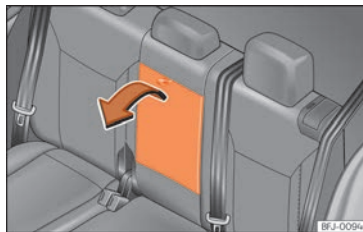

Fig. 100 Folding rear centre armrest.
- To *lower* the armrest, pull the cord in the direction of the arrow >>> **Fig. 100**.